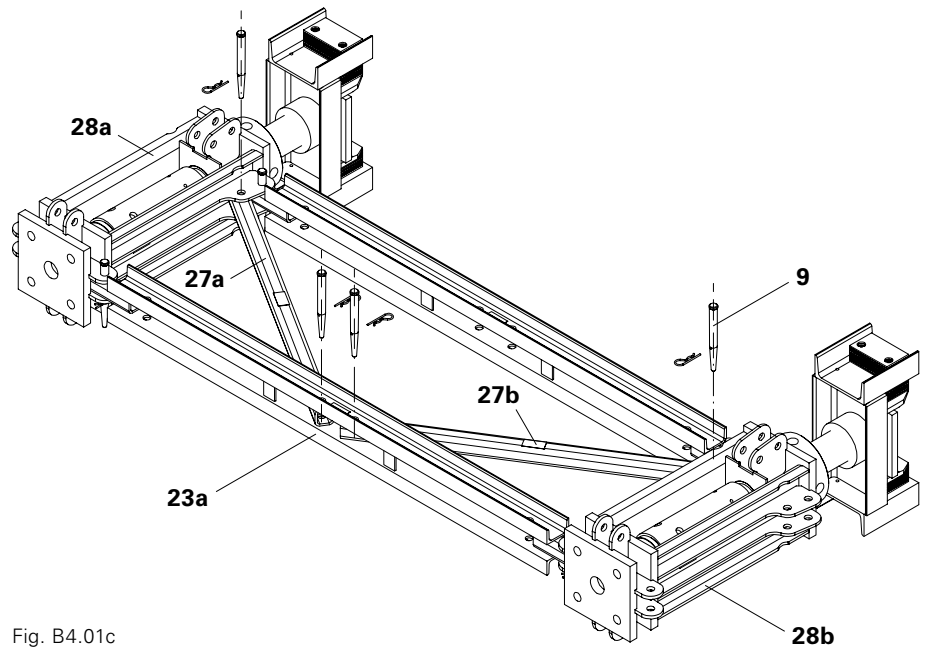

Fig. B4.01c
6. Connect the first Diagonal Strut VST 200/62.5 (27a) to the Head Spindle VST 100 (28a) using 1x Fitting Pin \varnothing 21 mm (9) and secure with Cotter Pin 4/1, galv.
7. Connect the first Diagonal Strut VST 200/62.5 (27a) to the Horizontal Ledger VST (23a) using 1x Fitting Pin \varnothing 21 mm (9) and secure with Cotter Pin 4/1, galv.
8. Connect the second Diagonal Strut VST 200/62.5 (27b) to the Head Spindle VST 100 (28b) using 1x Fitting Pin \varnothing 21 mm (9) and secure with Cotter Pin 4/1, galv.
9. Connect the second Diagonal Strut VST 200/62.5 (27b) to the Horizontal Ledger VST (23a) using 1x Fitting Pin \varnothing 21 mm (9) and secure with Cotter Pin 4/1, galv. (Fig. B4.01c)